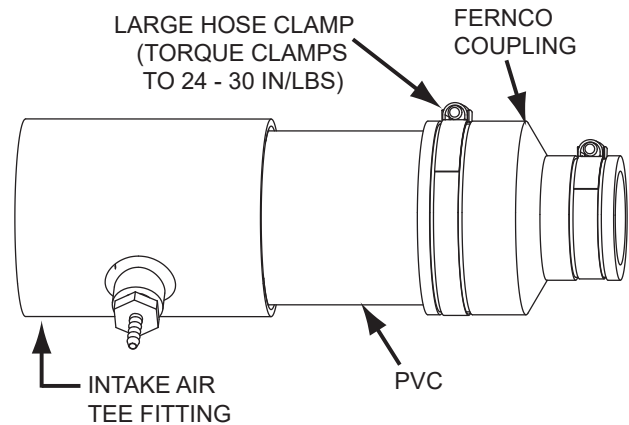

Figure 19. Intake Air Connection Pipe
3. Loosen the large hose clamp on the Fernco coupling that connects the intake air connection pipe to the Combustion blower. See **Figure 19**.